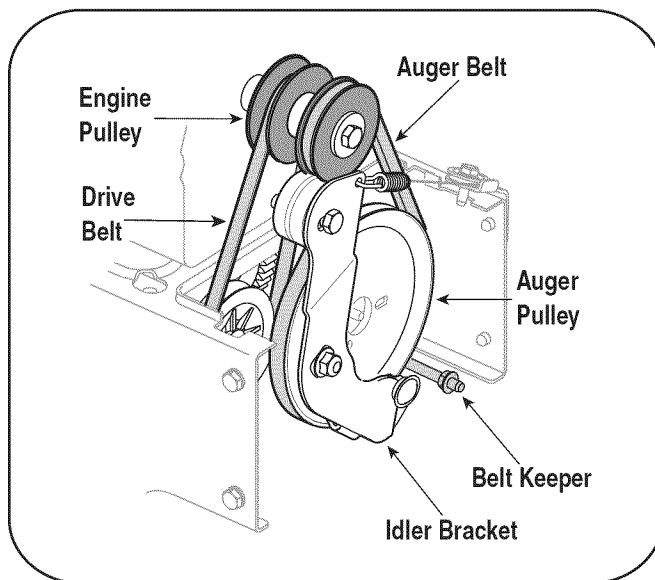

Figure 7-2
2. Slip the front auger belt off of the engine pulley pushing it forward and rolling in off of the pulley. See Fig. 7-2.
5. Place the new drive belt into the groove on the engine pulley. See Fig. 7-2.